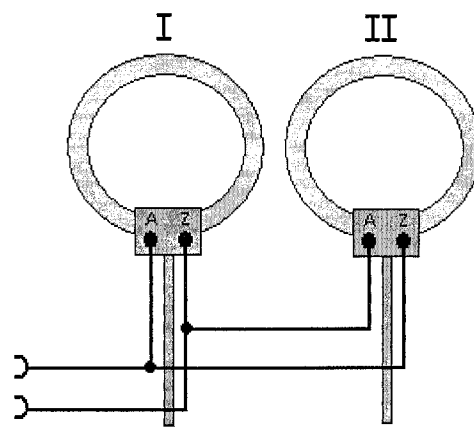

Fig. 1.2 Parallel connection
- For parallel connection, connect socket A of coil 1 to socket Z of coil 2 and socket Z of coil 1 to socket A of coil 2 (refer to Fig 1.2).